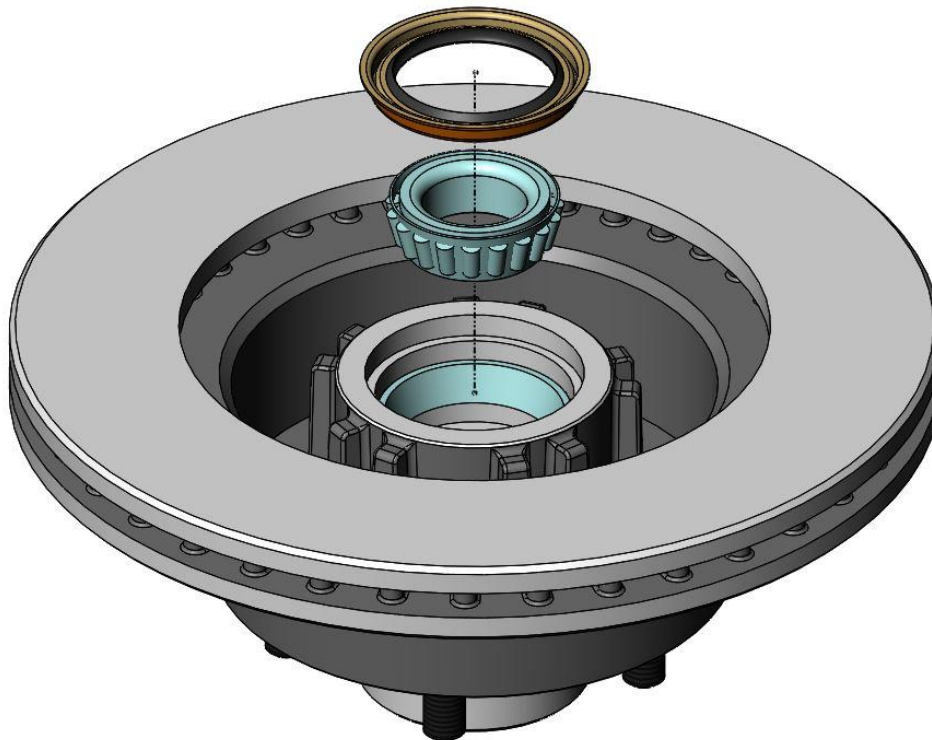

Figure 4 – Inner Wheel Bearing and Grease Seal Installation
9. The wheel bearings can now be packed with a high quality wheel bearing grease available at your local parts store and the bearings can be installed in the rotors at this time. Once the inner bearing is installed, tap the inner seal in at this point. Figures 4 shows the bearing and seal being installed.